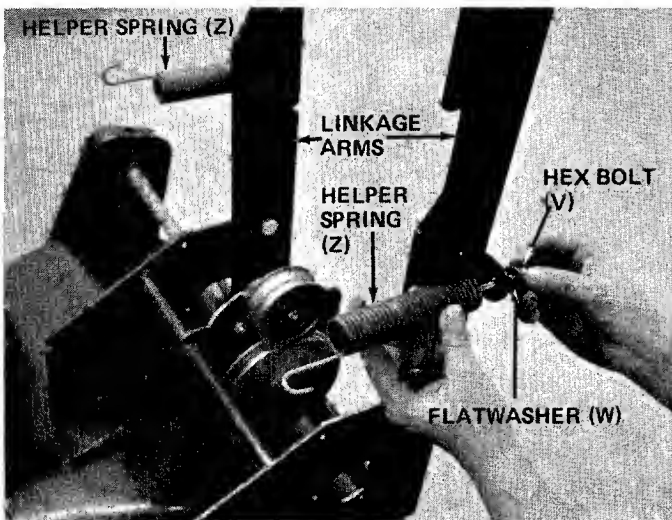

FIGURE 5
4. Place helper spring (Z) in position on linkage arm assemblies. Secure with flat washers (W) and hex bolts (V) provided in hardware pack. See figure 5. Thread bolt approximately one inch into the spring insert. Adjustment is made in step number 26.